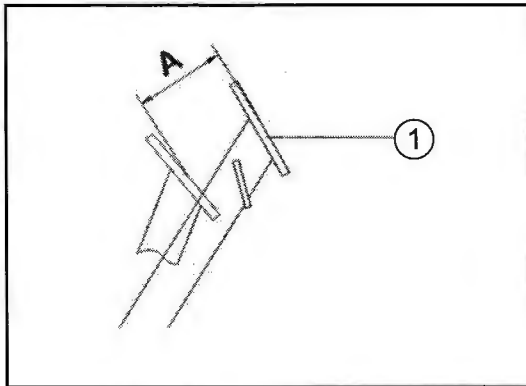

Fig. 27-1 - Clutch Pedal Adjustment
Check that distance (A), the amount of clutch pedal play, measures between $3/4"$ to $1\ 3/16"$ to prevent abrasion in the clutch system. If not, adjust the control until you reach the correct measurement as shown. (See Fig. 27-1).